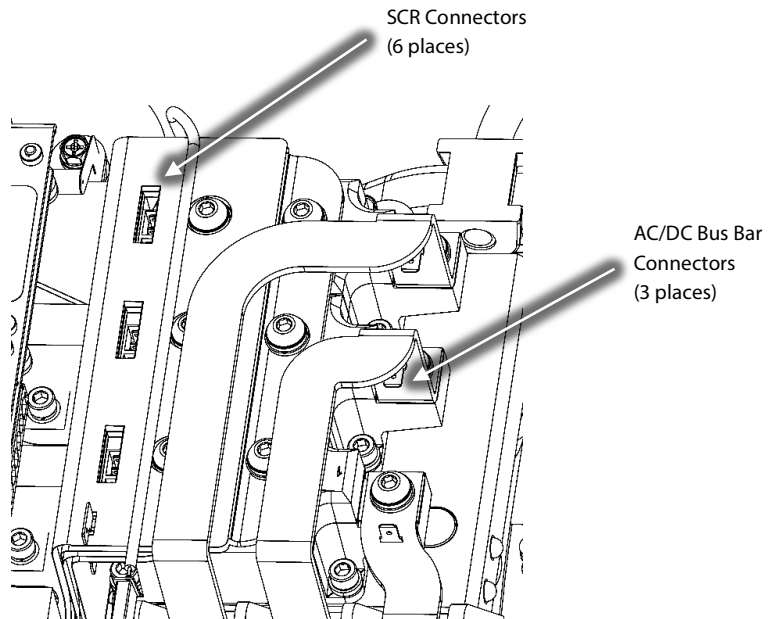

Figure 6 – SCR Gate Cable and AC/DC Harness Connections
- Unplug the SCR Gate cable harness and AC Input Cable from the AC Bus and SCRs noting their orientation. Refer to Figure 6 (SCR Gate Cable and AC/DC Harness Connections) for the location of the connectors.